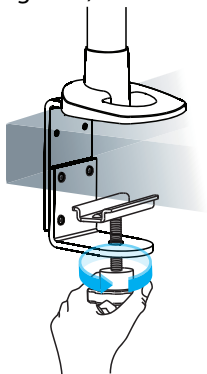

Figure 3
5. Use the **Hand Knob** to **Tighten** and secure the **Desk Clamp** onto the **Desk**. (Figure 3)